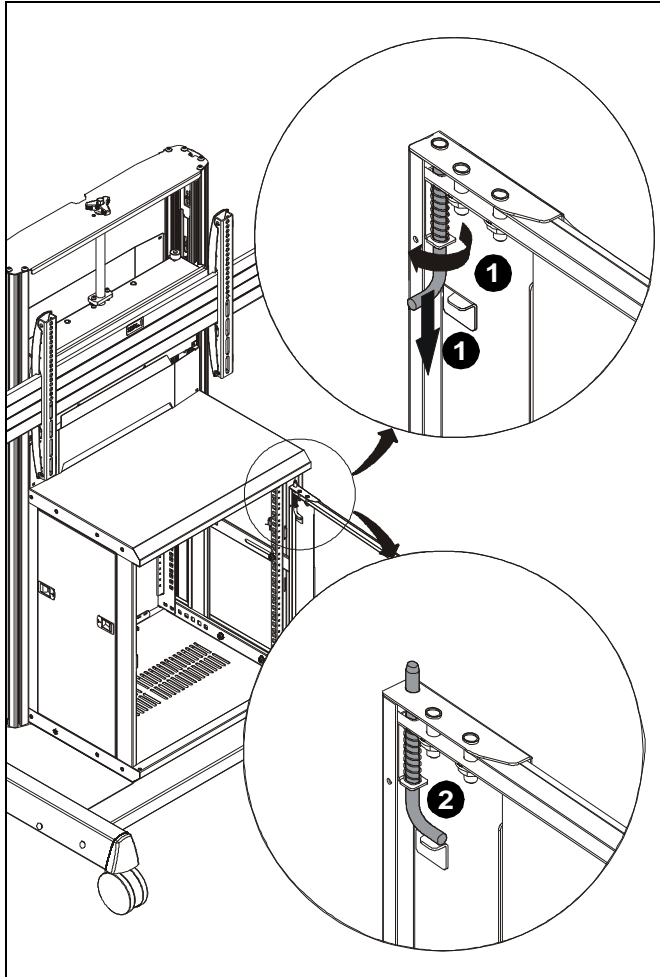

Figure 25
1. Turn upper door pin to release from locking tab and pull down to release door from rack and lift door from rack frame. (See Figure 25)
2. Release upper pin and turn it back to secure it under the locking tab. (See Figure 25)